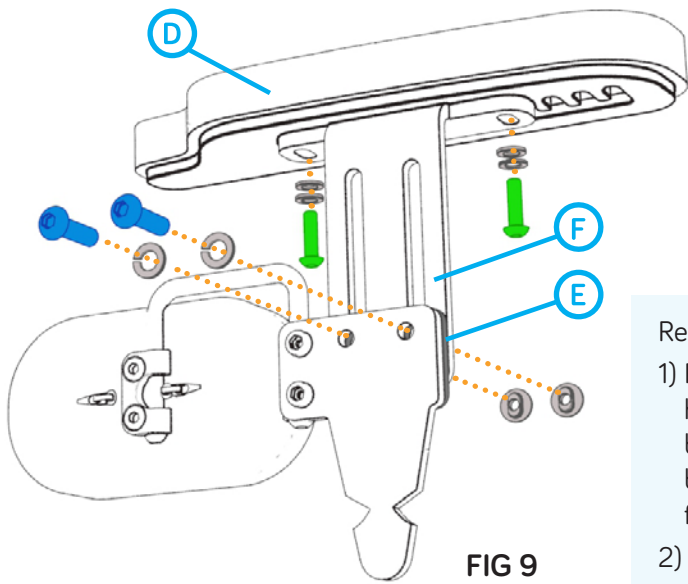

FIG 9
- 1) Remove the screws (blue FIG 9) that secure the arm supports height bracket (F) with the washers, T-nuts and plastic spacer block (E) and place to one side for re-installation. Rotate this bracket and arm support 180° and reattach spacer block with fasteners in the order they were removed.